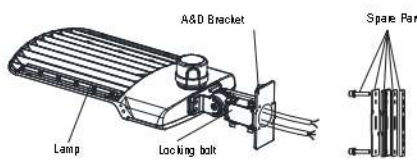

Figure 13
Step 1: Remove the spare parts from ADM bracket. (Figure 13)